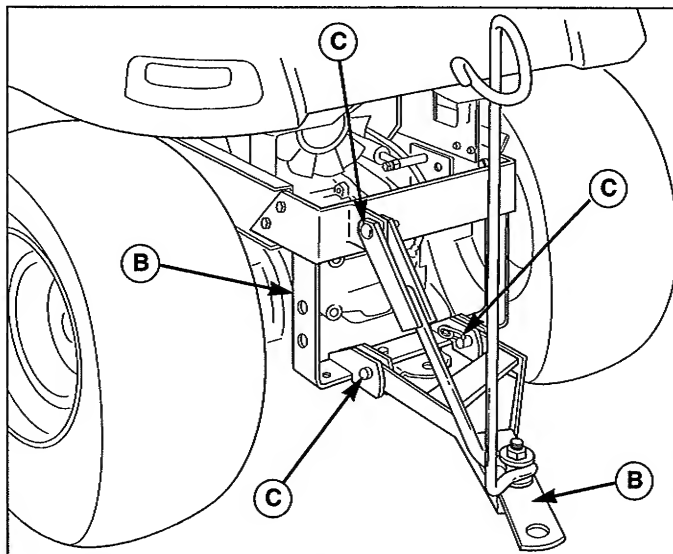

Figure 6. Attach Drawbar Hitch
1. Attach the drawbar hitch (A, Figure 6) to the tractor hitch (B) using three clevis pins (C) and safety clips.
4. Remove the three clevis pins and safety clips (C, Figure 6) securing drawbar hitch (A) to the tractor hitch (B) and remove the drawbar hitch (A).